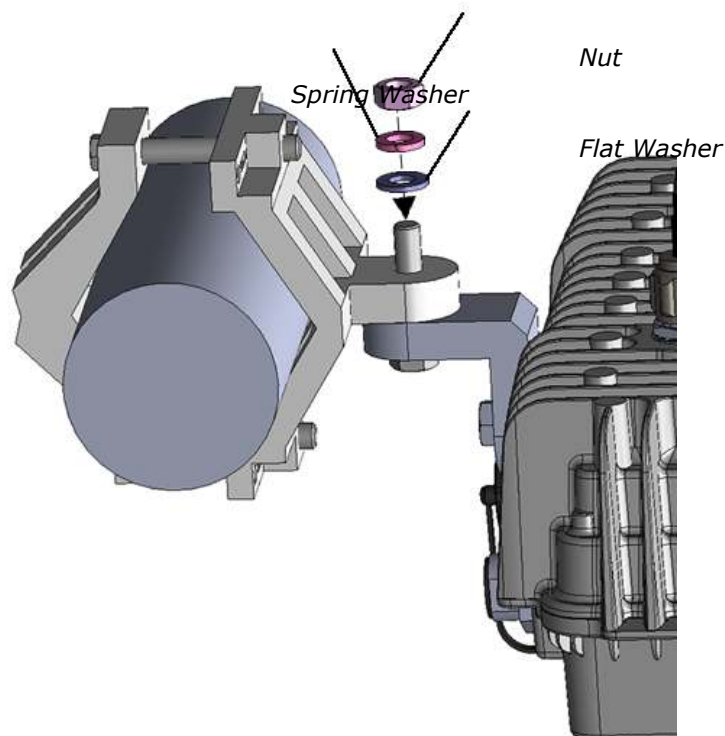

Figure 6. Unit Horizontal Pole Mounting
1. After assembling the brackets, mount the GoBeam 5100/6100 unit on to the bracket as shown in Figure 6. Use a flat washer [H], a spring washer [I] and a nut [J].
1. After assembling the brackets, mount the GoBeam 6100 unit onto the bracket as shown in Figure 6. Use a bolt [F], flat washer [H], spring washer [I] and nut [J].